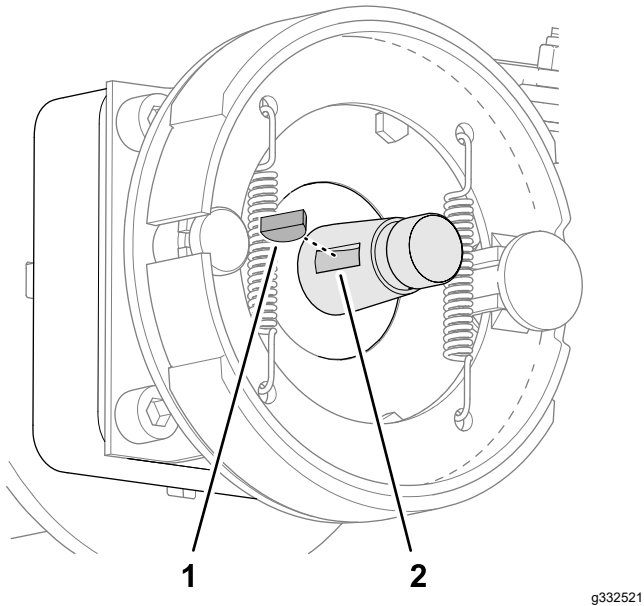

**Figure 65**
1. Remove the locknut that secures the hub to the wheel-motor shaft (Figure 64 or Figure 65).
4. Use the specified wheel hub puller to remove wheel hub and brake drum from the wheel-motor shaft (Figure 64 or Figure 65).